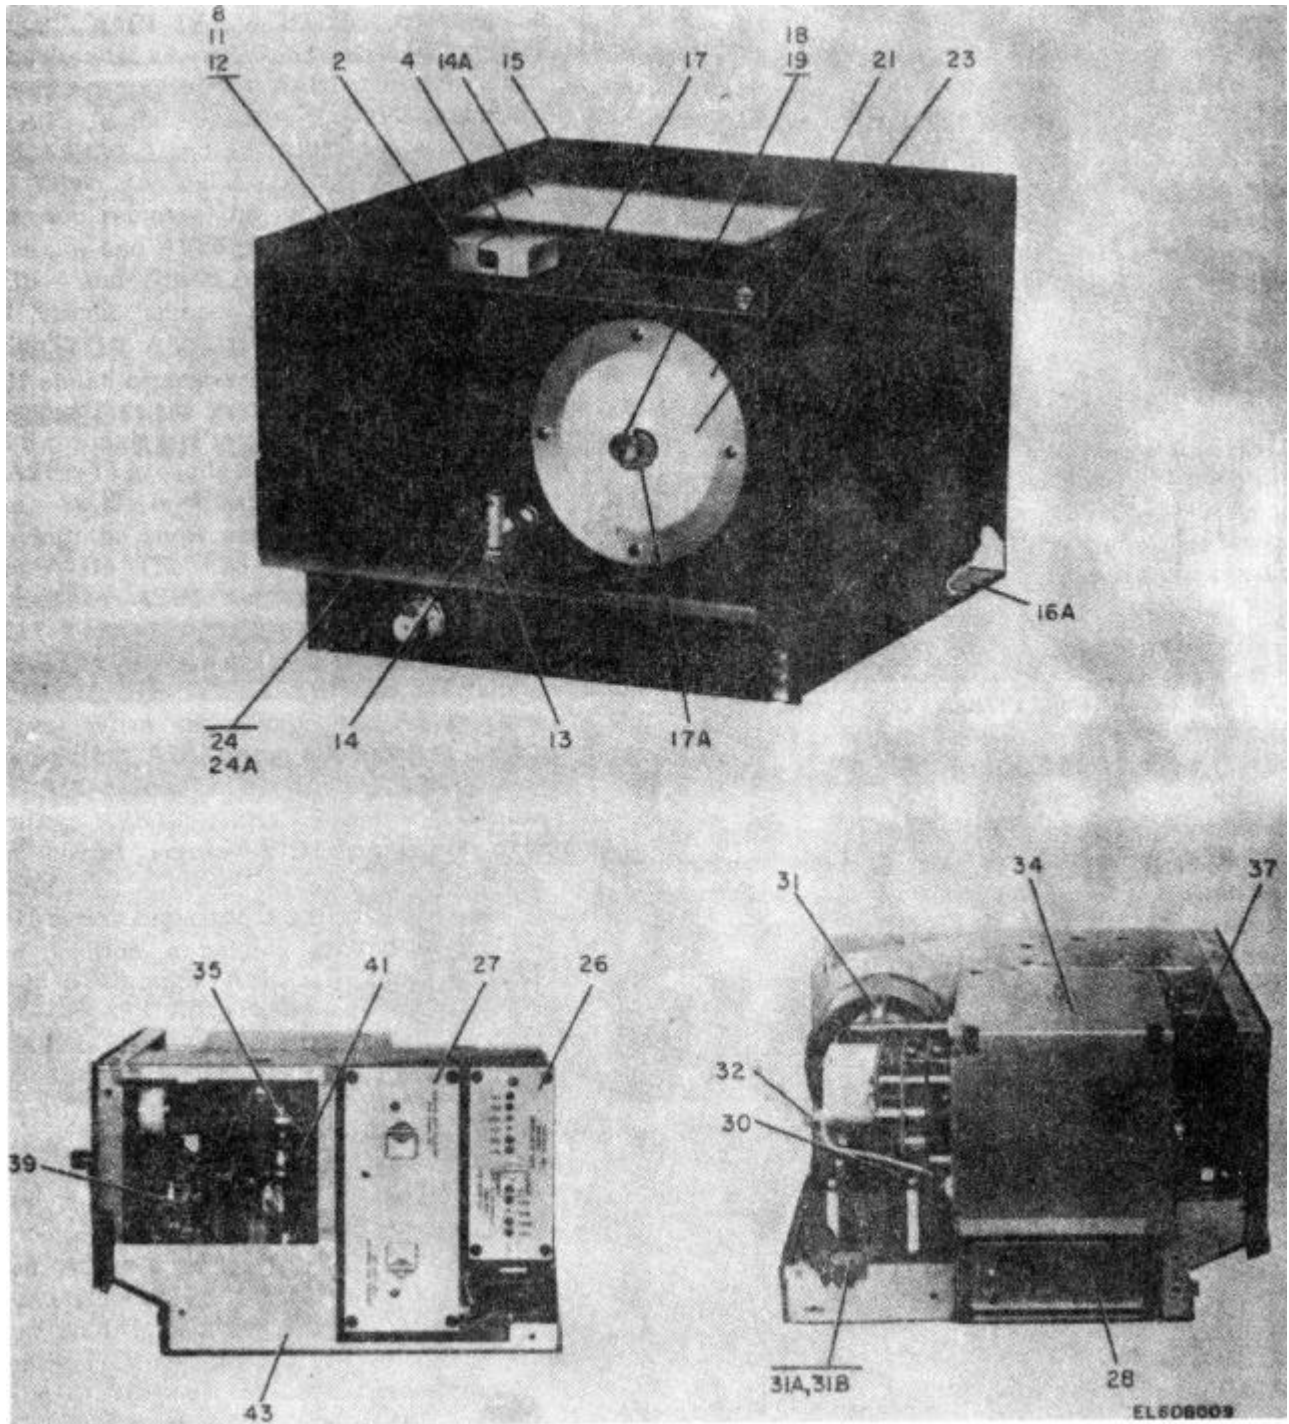

Figure 3-1. Couplers, antenna CU-1658/A and CU-1669/GRC, Parts Location.
(21) Remove chassis mounting plate (69) from the chassis by removing eight screws (-70).
(22) Remove connectors A1J4, A1J5 and A1J6 50, 54, 58) from chassis mounting plate (69) by removing two each nuts (-51, -55, and -59), spacers (-52, -56, and -60), and screws (-53, -57, and -61).
(23) Remove connector A1J9 (82) and A1J8 (84) by removing two each connector lock screws, nuts, flat washers and lockwashers (all part of sliding lock assembly 83 and 85).
(24) Remove connector A1J14 (73) and A1J7 (75) by removing two each connector lock screws, nuts, flat washers and lockwashers (all part of sliding lock assembly 74, 76).
(25) Remove of coil A1L1 (62) from chassis by removing screw (-63).
(26) Remove power transformer A1T1 (64) from chassis by removing four screws (-65) and four flat washers (-65A).
(27) If coil A1L2 (89) and band relay A1K2 (92) are mounted on a bracket, do the following before proceeding to step (28). Unsolder strap from connector A1J13 (102) and lead from top of relay. Remove four screws securing bracket to chassis. Pull bracket out of chassis.
(28) Remove coil A1L2 (89) from chassis by removing screw (-90).
(29) Remove band relay A1K2 (92) that connects to the series and shunt varicoils (30, 31, fig.3-1) by removing one 3/8 hex nut (part of 92); one 3/8 hex nut and flat washer if mounted on bracket.
(30) Remove discriminator power connector
(7) Mount band relay A1K2 (92) to bracket with a 3/8-inch hex nut and flat washer.
(8) Mount coil A1L2 (89) to bracket with screw (-90).
(9) Position bracket assembly in chassis and secure with four screws.
(10) Solder strap to connector A1J13 (102) and lead from relay A1K1 (140) to terminal on relay A1K2 (92).
(11) Mount band relay A1K2 (92) which connects to the if series and shunt coils (30, 31, fig. 3-1) with a 3/8-inch hex nut (part of 92).
Legend for figure 3-1: